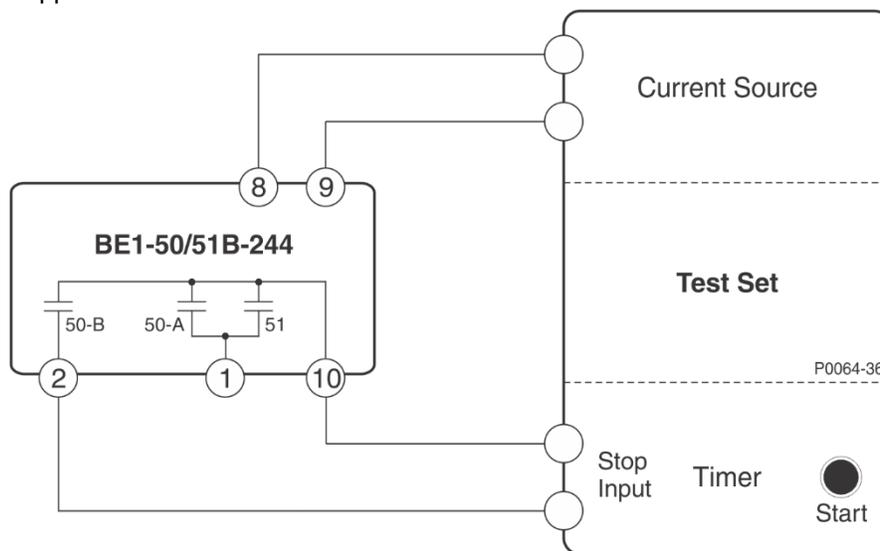

Figure 5-2. 50-B Pickup Test Setup
- a. Connect the test setup shown in Figure 5-2.